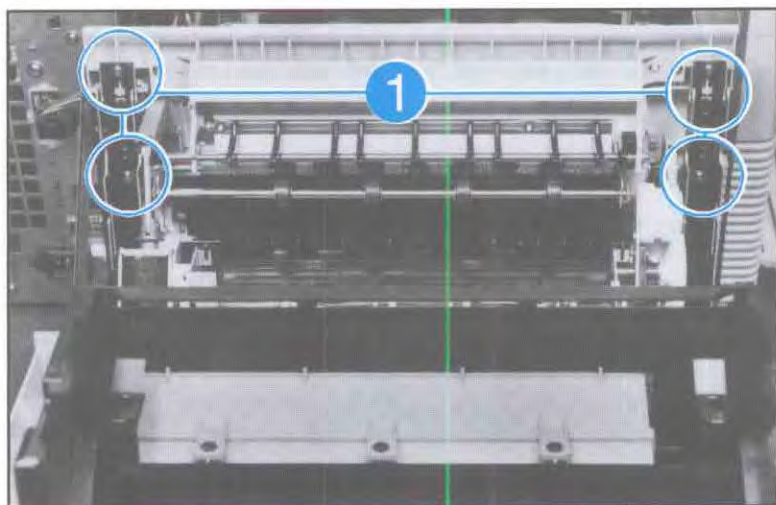

Figure 6-46. Delivery Roller Assembly
3. Remove the (4) screws securing the Delivery Roller Assembly (see Figure 6-46, callout 1), to remove the assembly from the Top Cover.